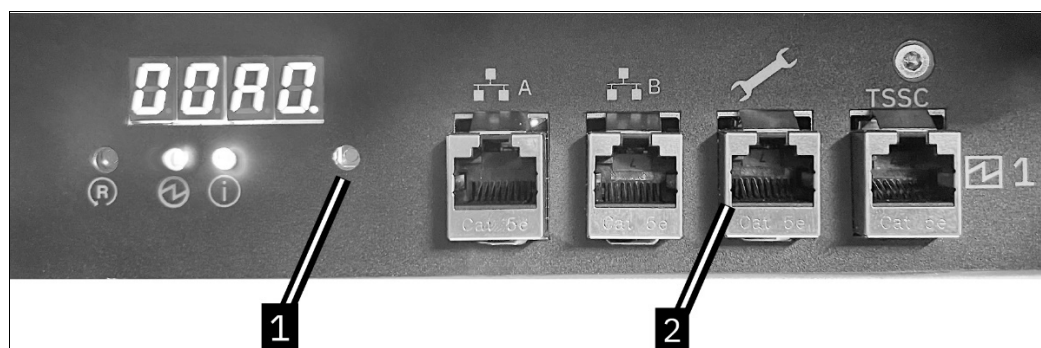

Figure 5-103 Library back panel
1. Press the Access Recovery button (1 in Figure 5-103) on the front of the electronics tray. If a remote connection is not available, connect a laptop to the service port (2 in Figure 5-103).